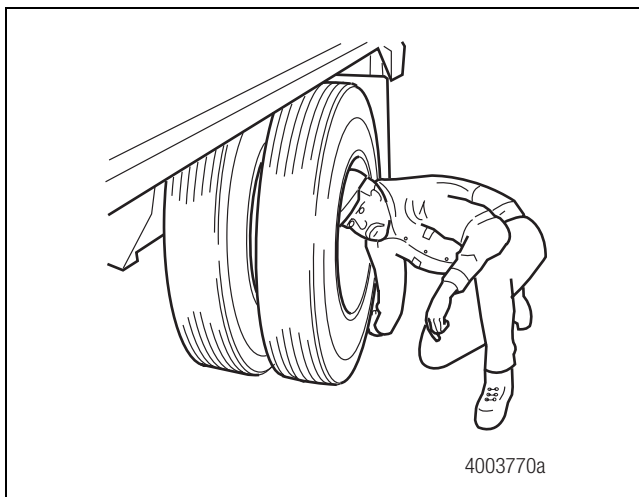

Figure 2.3
2. Listen for worn bearings that make a low-pitched grinding sound as the hub is rotated. If the tires are installed, the wheel will amplify the wheel-end noise. Figure 2.3.